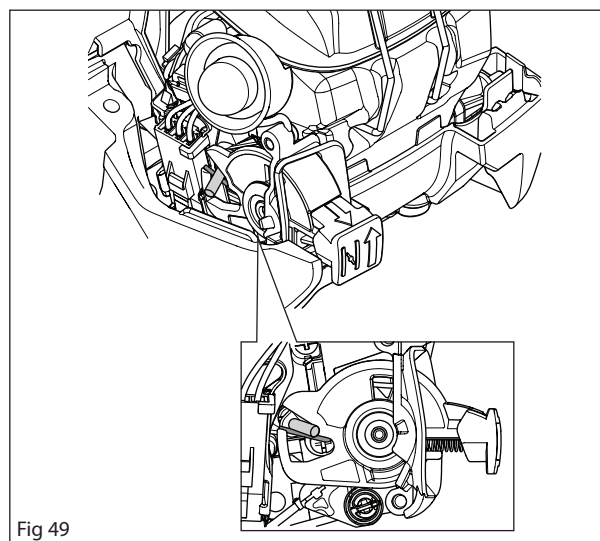

Fig 49
- The spring must be fitted under the choke pin on the carburettor. See figure 49.
- The rubber collar on the stop button must be on the inside of the bottom of the carburettor compartment. See figure 49.